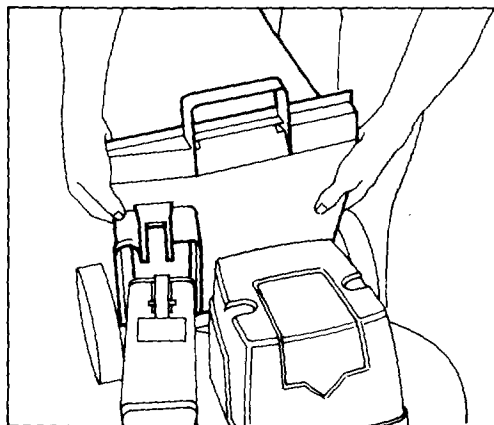

Figure 11
3. **INSTALLING BAG** (Fig. 11) — Hold front of bag frame and bag door together. Then place opening in bag door against flanges on rear chute and slide bag door down.